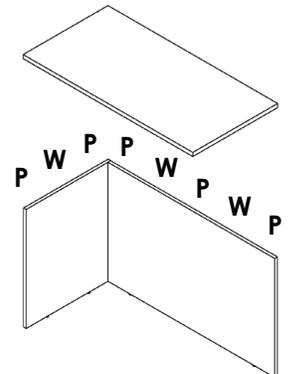

Figure 2: Attaching top to back and side
Step 3: Attach the top laminate piece to the back and side (figure 2).